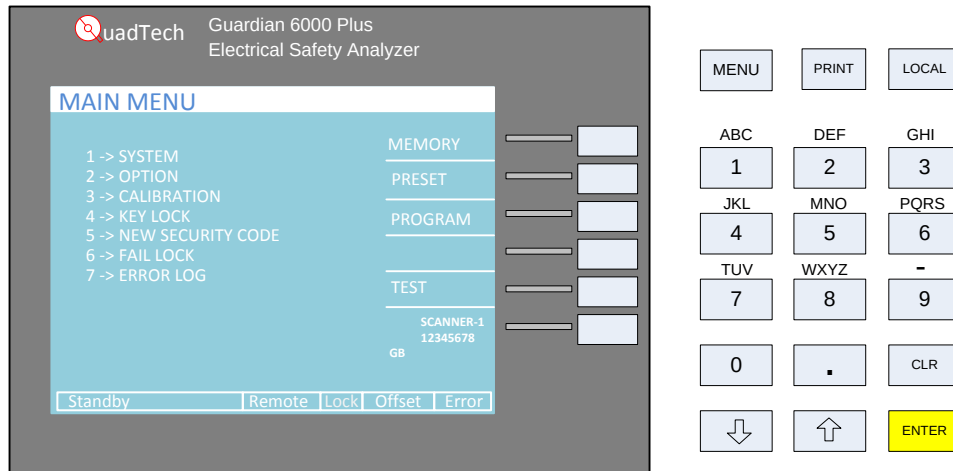

Figure 13: QuadTech Guardian 6000 Plus / Chroma 19032 display / keypad
- 5.4. Use the display and keypad (Figure 13) to program.